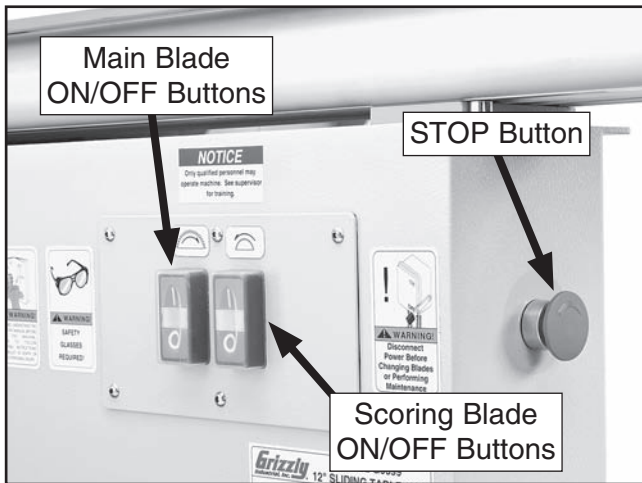

Figure 58. Power controls.
- Review the power controls shown in **Figure 58**.